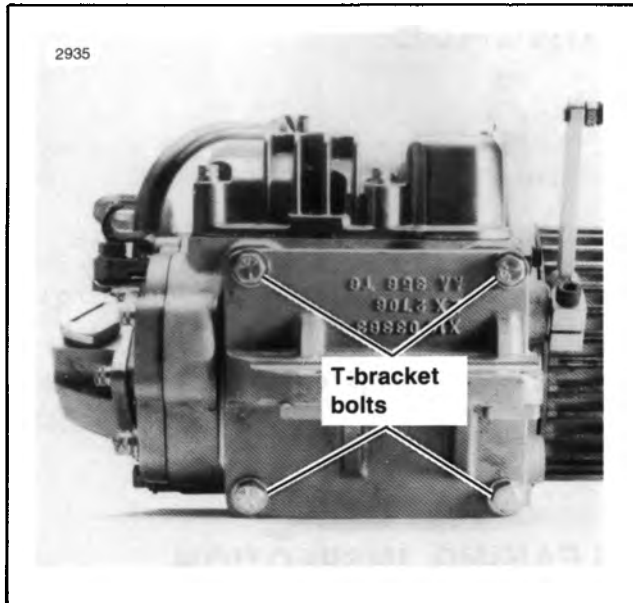

Figure 6-37. T-Bracket Bolts
3. See Figure 6-37. Install the bolts securing the inner primary case to the engine. On 1986 and earlier vehicles slightly loosen the four engine T-bracket to transmission bolts. On 1987 and later vehicles loosen the two engine to transmission 3/8 in. bolts. Tighten primary bolts to 16-18 ft-lbs torque and secure inner bolts with new safety wire on 1984 models. On 1987 and later vehicles tighten the two engine to transmission 3/8 in. bolts to 35-38 ft-lbs torque. Check to be sure mainshaft turns freely. On 1986 and earlier vehicles tighten the four T-bracket to transmission bolts to a torque of 13-16 ft-lbs.